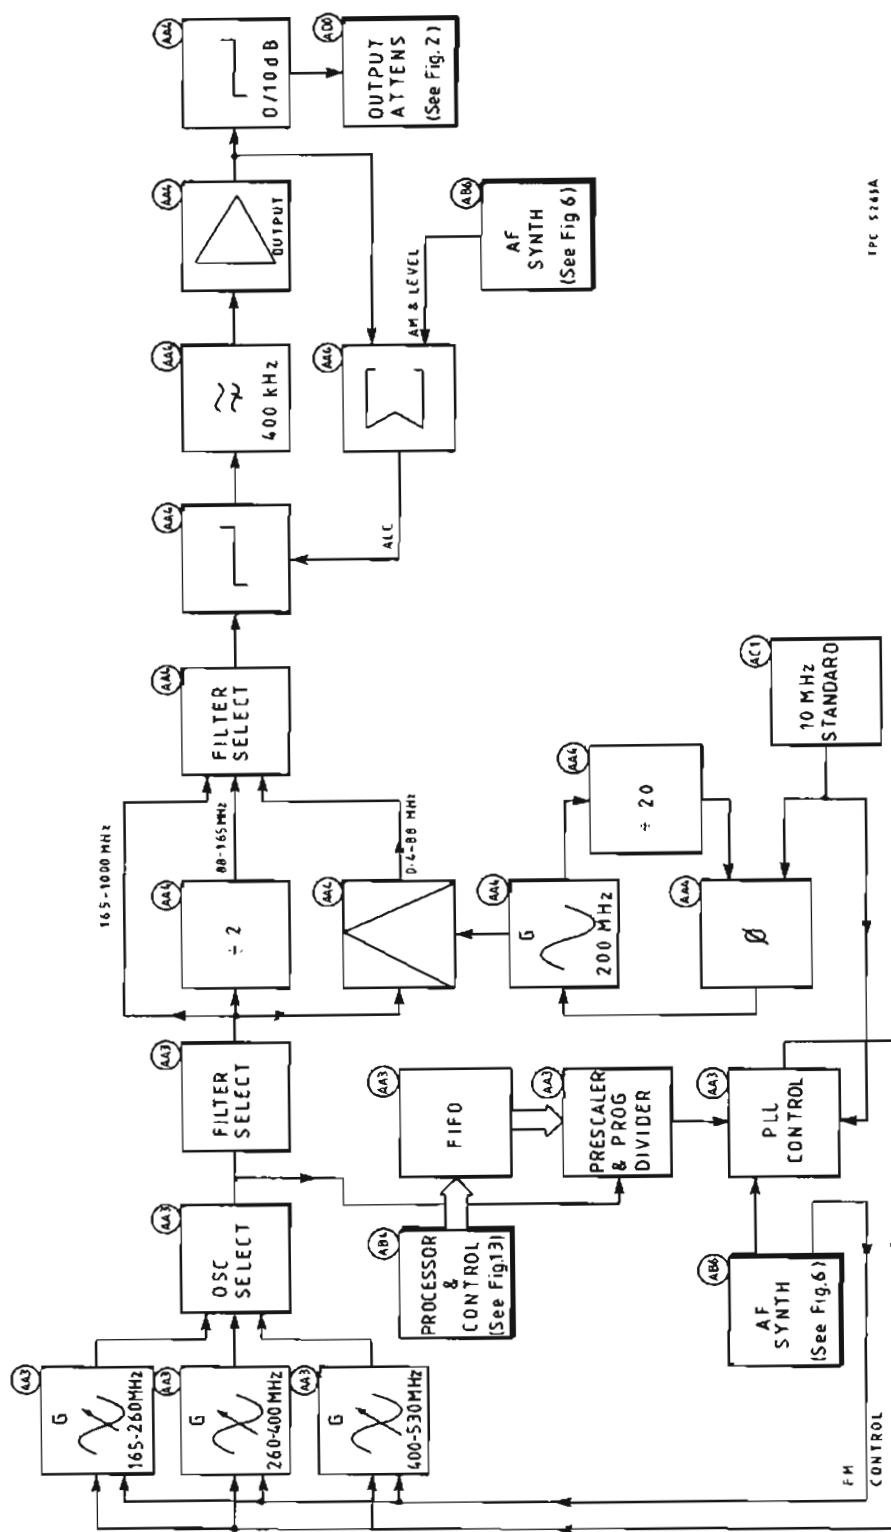

Fig. 3 Block diagram of r.f. and l.f. synthesizers (showing main functions of boards).
21. The r.f. synthesizer on AA3 uses three switched oscillators to provide a basic frequency range of 165 to 530 MHz (see Fig. 3). From these all other signal generator frequencies are derived. Band defining filters select either the harmonic or fundamental frequencies and extend the range from 165 to 1000 MHz. Oscillator output is also taken to a prescaler and programmable divider for frequency setting and then to a control chip for phase locking purposes. The control signal and frequency modulation from AB6 are fed back to the oscillators. LF synthesizer board AA4 uses a divider to extend the range from 165 to 88 MHz and a mixer to reach from 88 to 0.4 MHz. The mixer reference is supplied by a 200 MHz oscillator which, like the r.f. oscillators, is phase locked to the 10 MHz standard from AC1. Switched band-pass filters pass the selected frequency through an attenuator controlled by a.l.c. to a 400 kHz low-pass filter. A proportion of the signal from the output amplifier is fed back on the a.l.c. loop together with amplitude modulation and level control signals from AB6. A switched 10 dB attenuator passes the signal on to the 100 dB output attenuator.